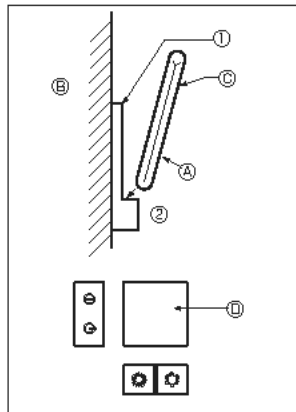
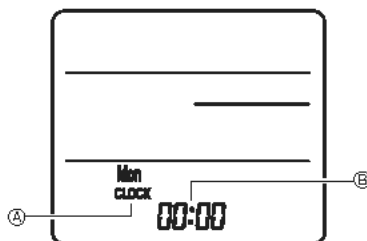

Fig. 7-7
Fig. 7-8
2) Installation method (Fig. 7-7)
- ① Attach the remote controller holder to the desired location using 2 tapping screws.
- ② Place the lower end of the controller into the holder.
④ Remote controller ③ Wall ② Display panel ① Receiver
3) Setting (Clock setting) (Fig. 7-8)
- ① Insert batteries or press the **CLOCK** button with something sharp. [CLOCK] and [:] blink.
- ② Press the **RESET** button with something sharp.
- ③ Press the **▲** button to set the time.